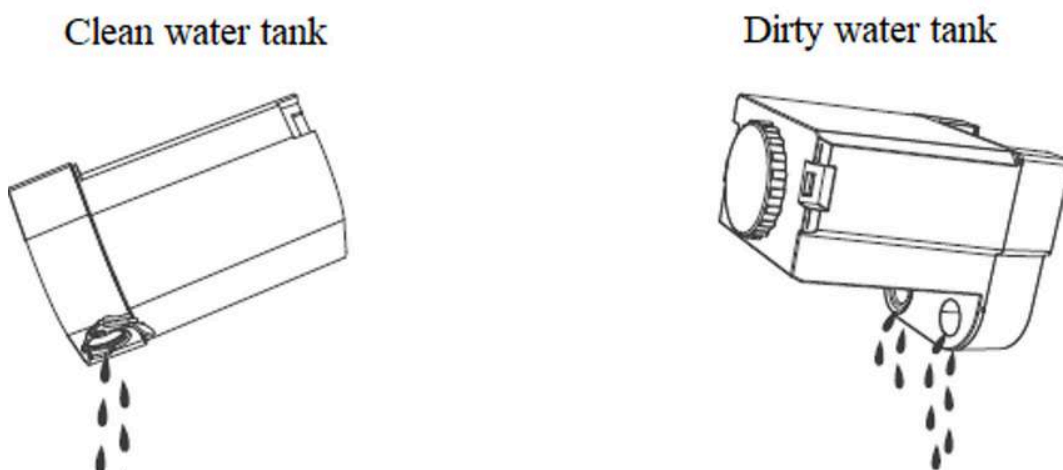

Fig. 13
11. Drain the water in the clean water tank and dirty water tank respectively and then clean them well to avoid breeding bacteria (see Fig.13).